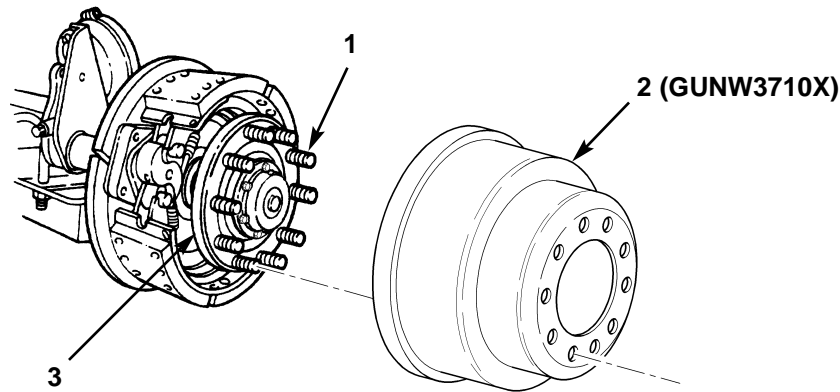

Figure 31. Installing Front Brake Drums.
35. Carefully slide new front brake drum (figure 31, item 2) over wheel studs (figure 31, item 1) on front hub (figure 31, item 3).